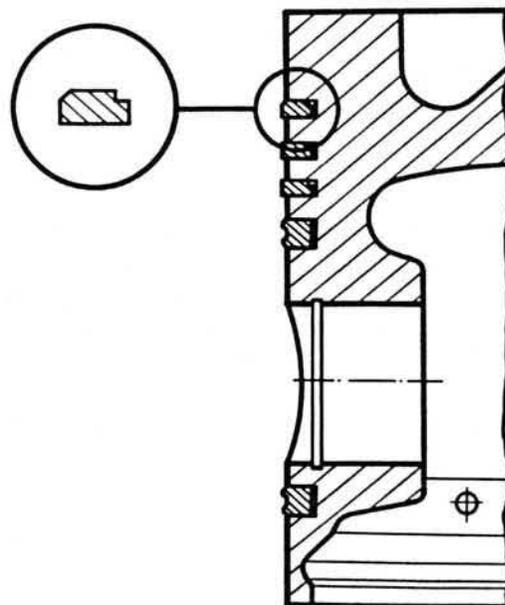

Fig. 26. Piston ring location
4. Fit the piston rings on the piston with the help of a ring assembly tool, see Fig. 25. Fit the oil rings first, either way up. The compression rings are fitted as shown in Fig. 26.